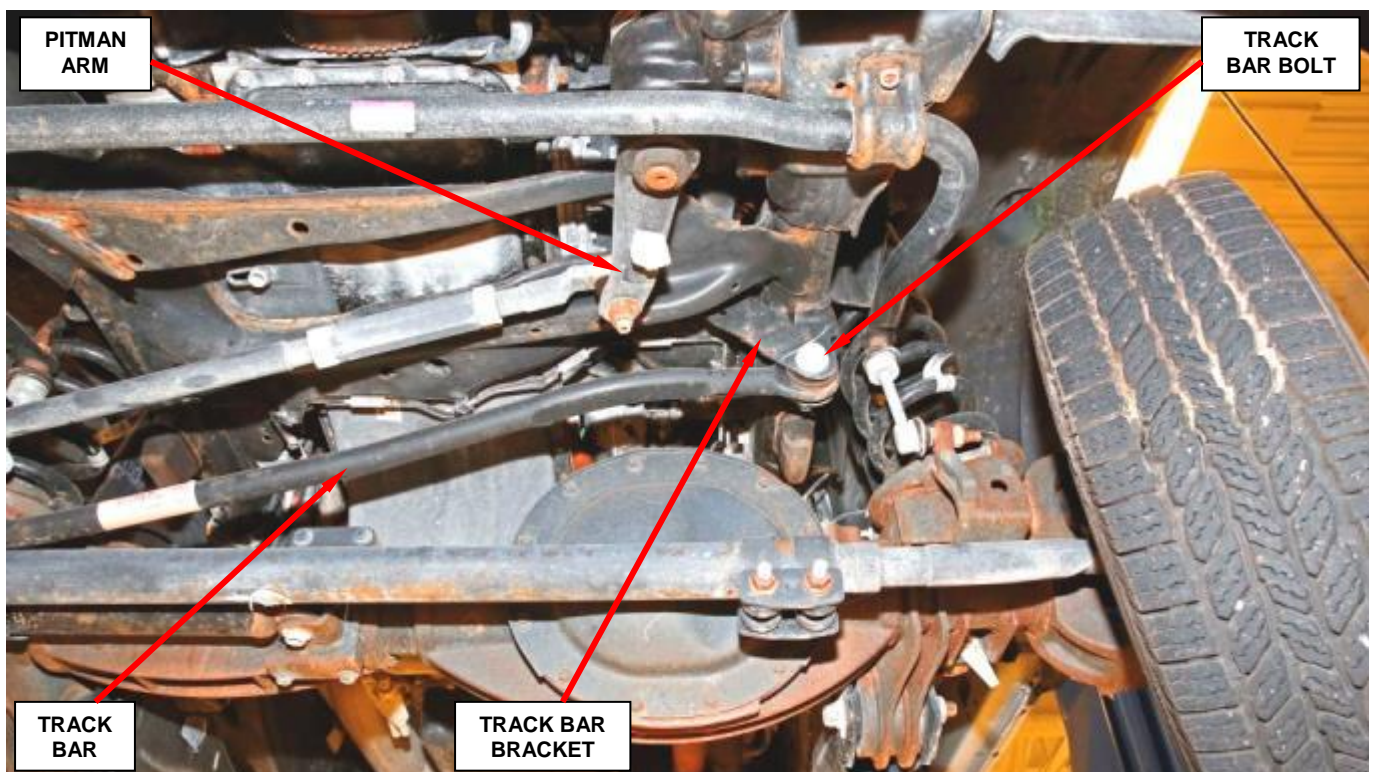

Figure 6 – Turn Front Wheels full Right and Remove Track Bar Bolt
2. Turn the front wheels to the full “right turn” position to gain additional clearance from the pitman arm (Figure 6).
3. Remove the track bar bolt and flag nut from the track bar at the frame bracket (Figure 6).